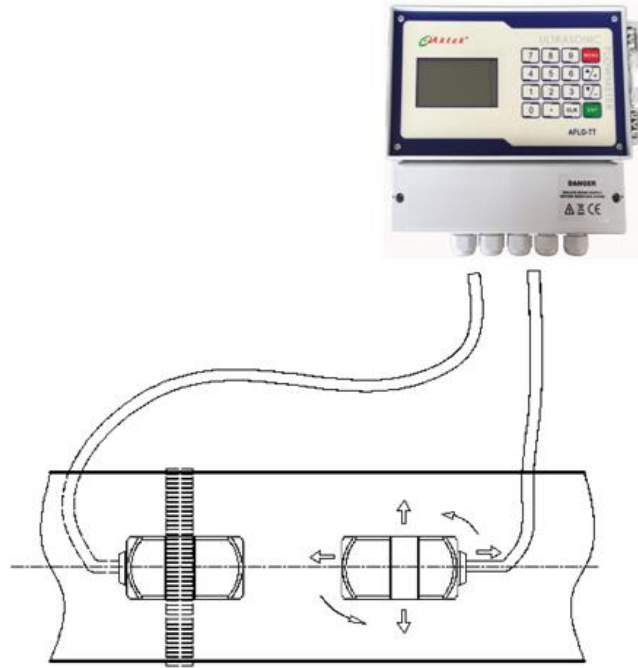

Figure 2.6 Z-Mode transducer placements
6. Place the downstream transducer on the pipe at the calculated transducer spacing. See **Figure 2.6**. Using firm hand pressure, slowly move the transducer both towards and away from the upstream transducer while observing Signal Strength. Clamp the transducer at the position where the highest Signal Strength is observed. Signal Strength of between 60 and 95